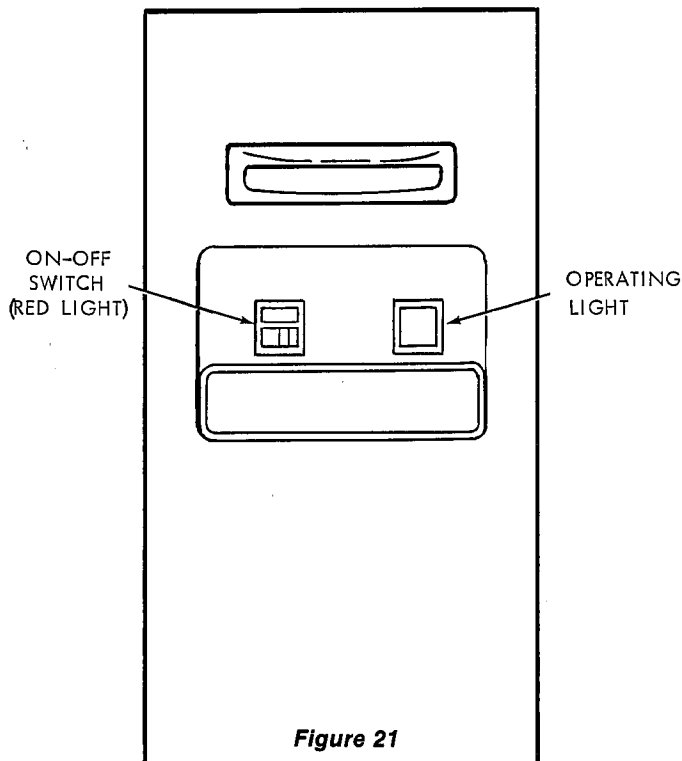

Figure 21
1. Push the ON-OFF switch to the on position. (figure 21). When the power is on, the ON-OFF switch light will be on.
2. Push the ON-OFF switch on the power pack to the OFF position (figure 21). Wait 15 seconds and both the power pack and the collecting cell(s) will be automatically discharged.